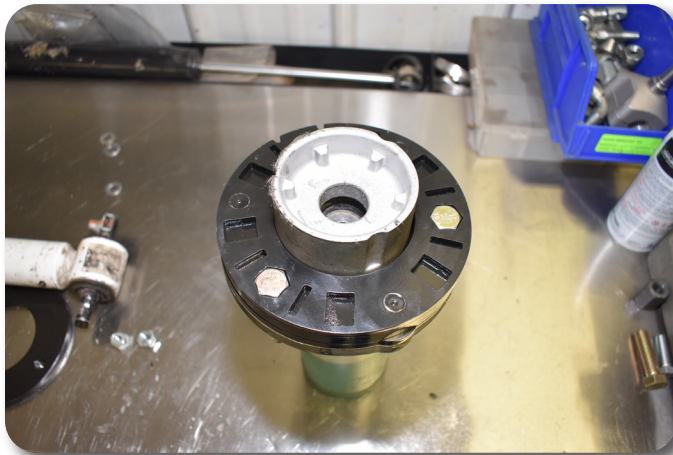
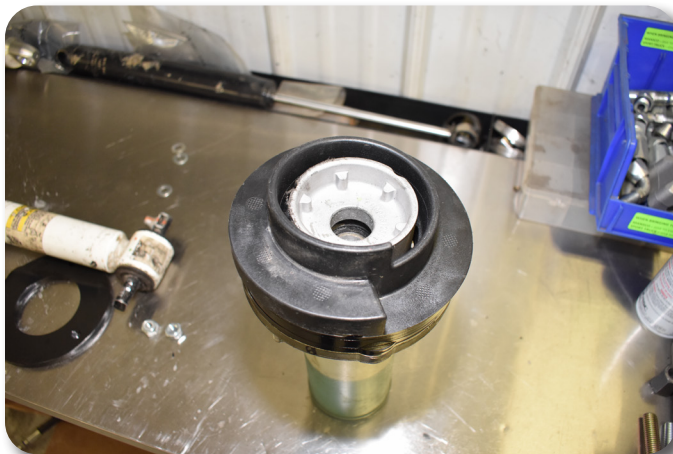

Figure 11A
Figure 11B
15. Install the preload spacer on to the upper strut mount. The bolt holes will only line up one way **Figure 11A**. Install the coil spring plastic isolator on to the preload spacer **Figure 11B**. The plastic isolator can only install one way.